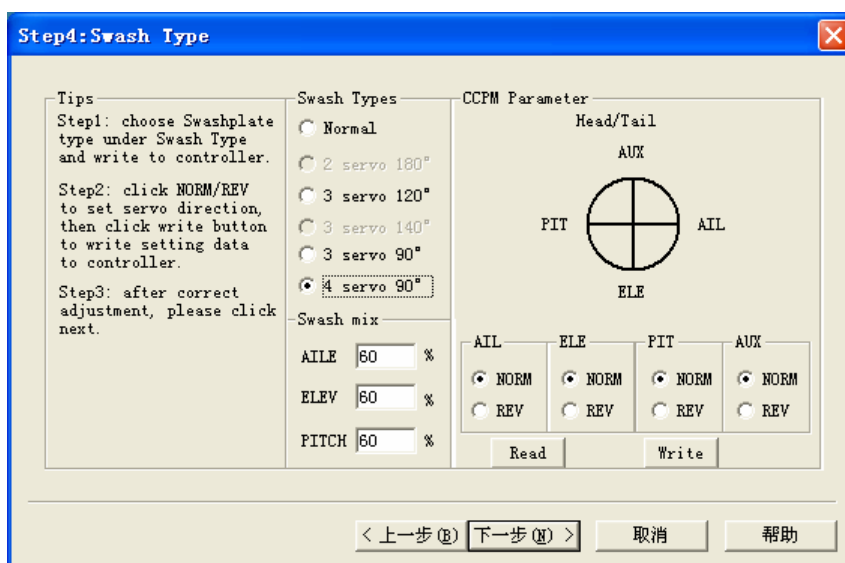

Figure 3. 37
- 5) Pay special attention to CCPM 4_Servo_90 Swash type (Figure 3. 37).
- Connect the pull rod of the fourth Servo after complete adjustment of the three ones. And adjust the direction of the fourth, to make sure no locking braking^① between Servos and the correct motion of swash.